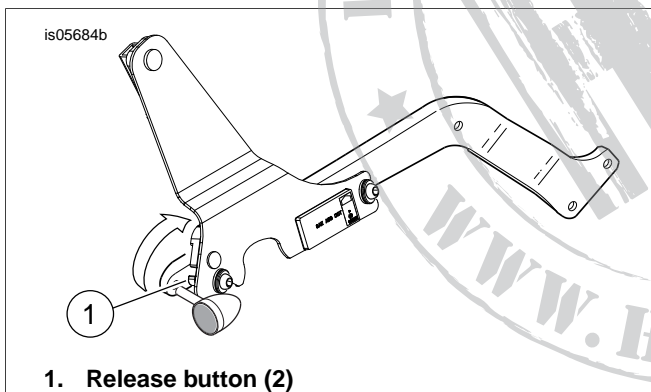

Figure 4. Close Rotary Latches
3. Push the rear of the sideplates downward and close the rotary latches by pressing the latch levers as far forward as they will go (see Figure 4). A "CLICK" will be heard when the latches are in place. If the latches do not easily close, do not force.